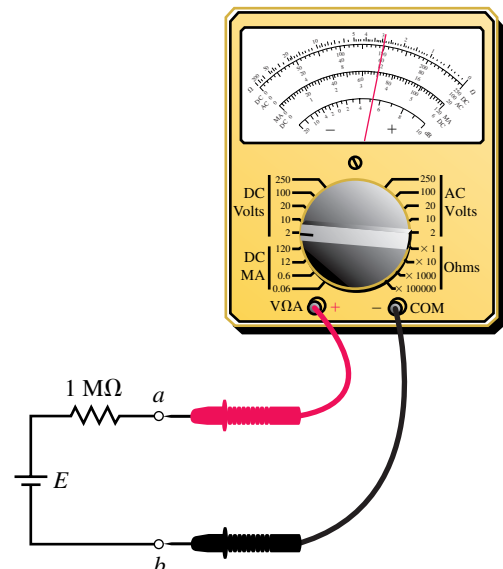

FIGURE 6–90
51. An inexpensive analog voltmeter is used to measure the voltage across terminals a and b of the circuit shown in Figure 6–90. If the voltmeter indicates that the voltage $V_{ab} = 1.2 \text{ V}$, what is the actual voltage of the source if the resistance of the meter is $50 \text{ k}\Omega$?